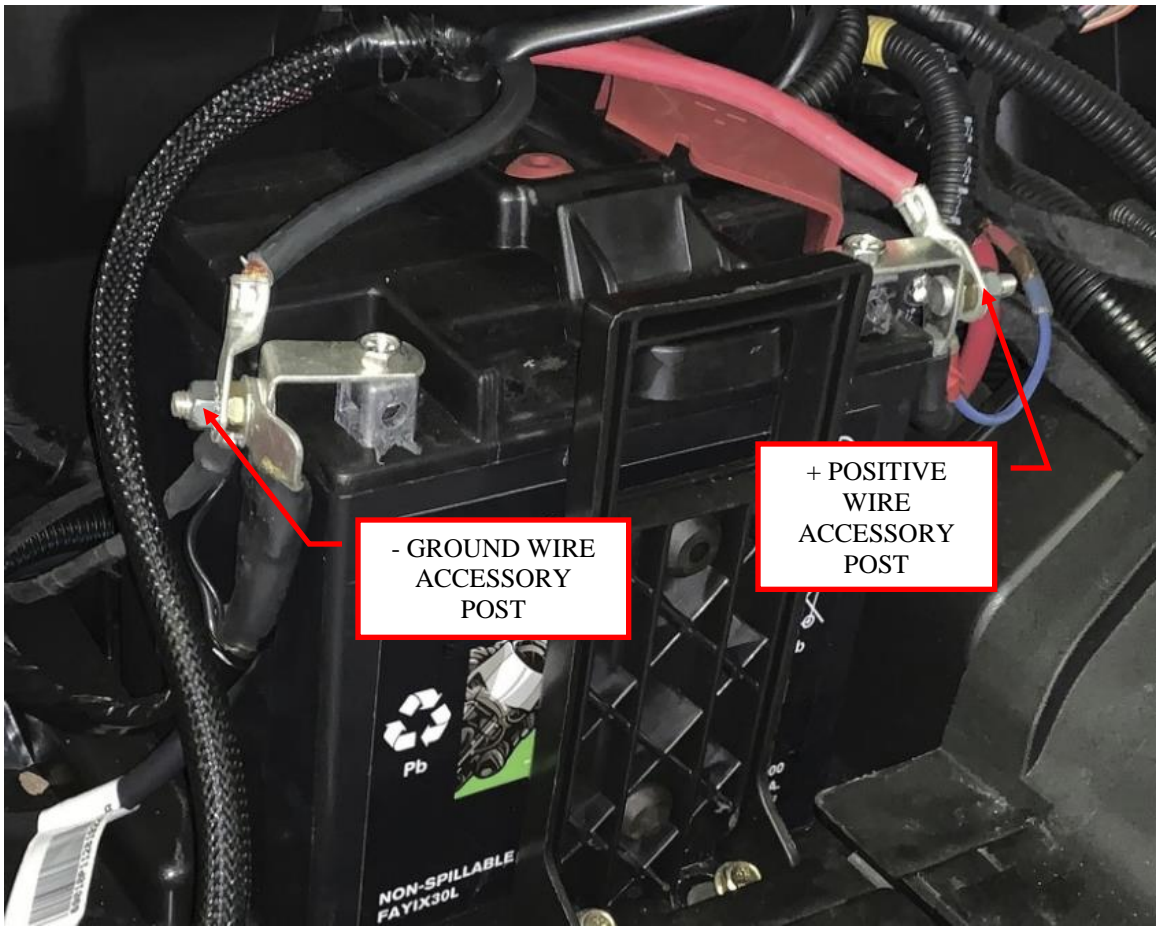
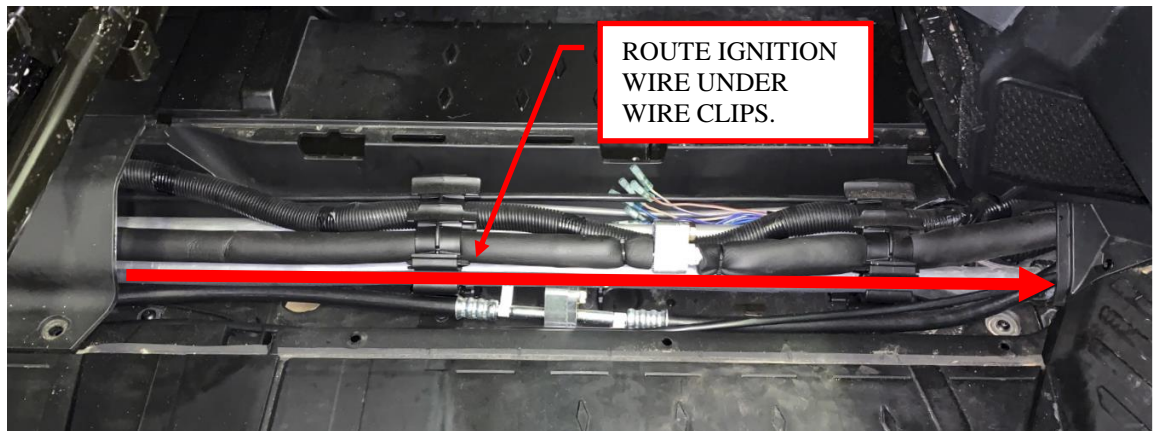
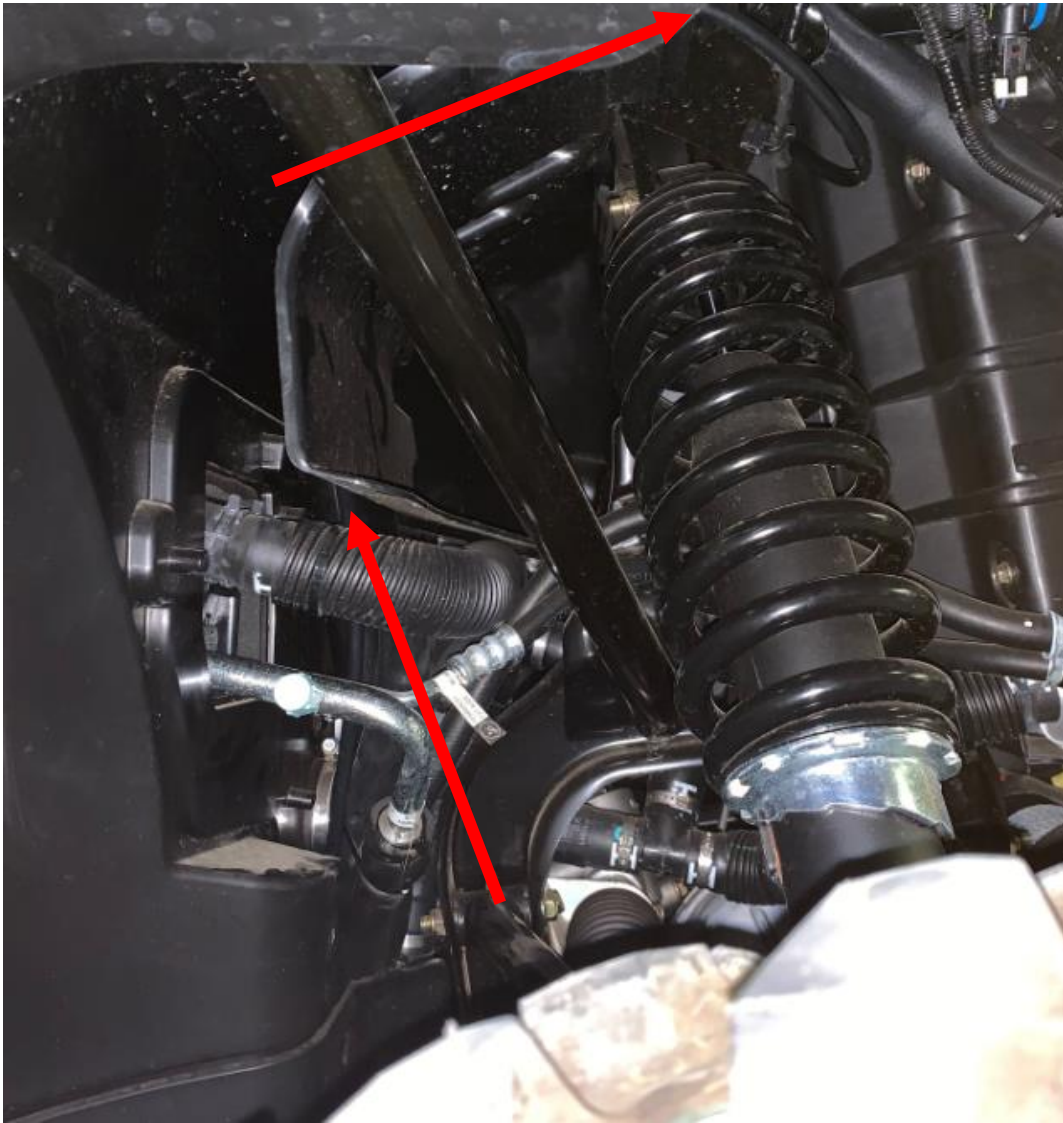
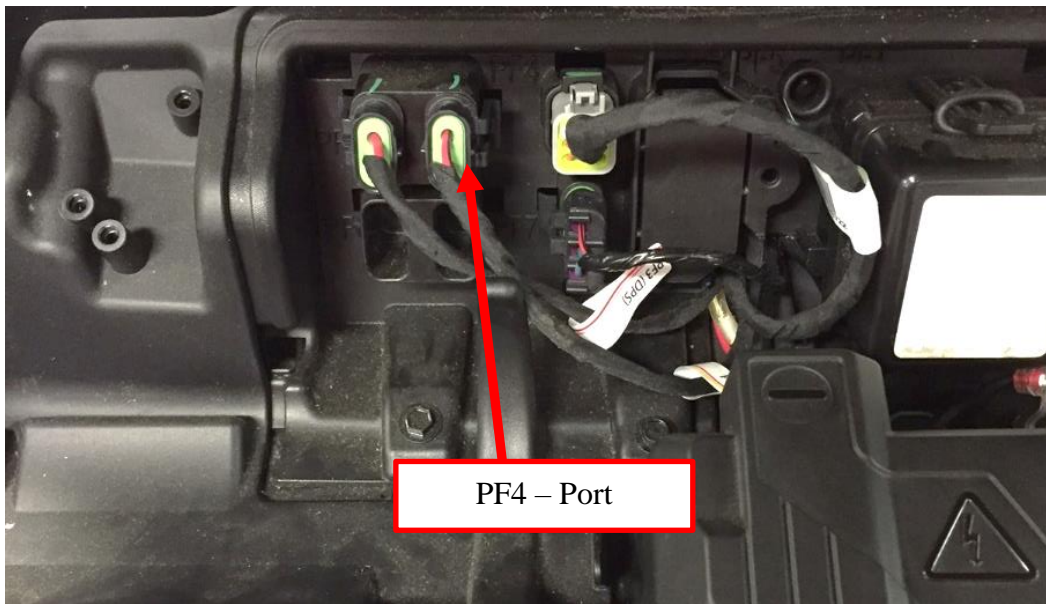

Figure 13: Attach the power wires.
Figure 15: Wire access tunnel removed (front shown, rear similar).
Figure 16: Wire routing in front fender.
Figure 17: Accessory port connection.
14. Connect the red power wire to the positive terminal of the battery. Connect the black ground wire to the negative terminal of the battery. Use the supplied M6 nut to clamp the cable down to the accessory posts on the battery terminal. See Figure 13.
16. Remove the floor board wire access tunnel cover from the front and rear seat areas. The cover is held in place with 6 plastic rivets. Pry the inside circle of the plastic rivet up to release it. See Figure 15.
17. Route the ignition wire from the chassis harness (near the area where you made the battery connections in Figure 13) through the wire access tunnel and up the frame inside the wheel well. Finally tuck the wires into the area under the hood. See Figure 15, Figure 16, and Figure 17.
18. Unplug the factory fuse holder in the port labeled PF4. See Figure 17.